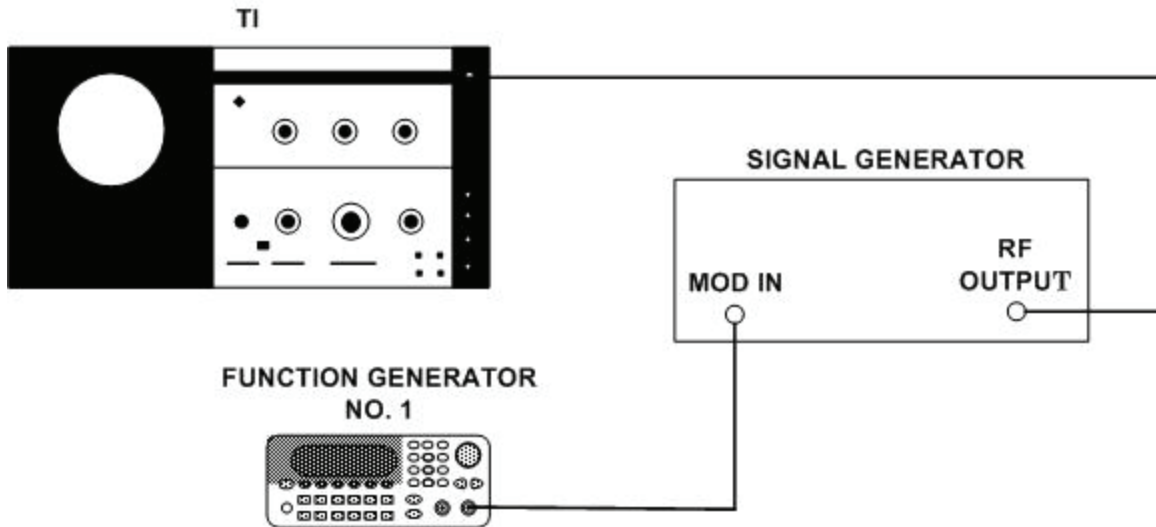

Figure 5. Scan time accuracy - equipment setup.
- (1) Connect equipment as shown in figure 5.
- (4) Adjust signal generator frequency and amplitude controls until signal display is aligned with far left graticule line on display. Record signal generator frequency.
- (5) Increase signal generator frequency 80 MHz above frequency recorded in (4) above. Signal display will move within  $\pm 0.24$  division of the eighth graticule line to the right.
- (6) Set **BANDWIDTH** switch to **3 kHz** and **SCAN WIDTH PER DIVISION** switch to **.05 MHz**.
- (7) Set IF plug-in **SCAN TIME PER DIVISION** switch to **10 ms**.
- (8) Connect equipment as shown in figure 5.
- (9) Set signal generator controls as necessary for external modulation.
- (10) Adjust signal generator output to 60 MHz and adjust function generator no. 1 output to 50 kHz.
- (11) Adjust signal generator and function generator no. 1 amplitude controls until a signal pip is displayed every 50 kHz across the display.
- (12) Adjust **FREQUENCY** and **FREQUENCY FINE TUNE** controls until a 50 kHz signal pip is aligned with far left graticule line on display. A 50 kHz signal pip will appear within  $\pm .8$  division of eighth graticule line to right.
- (13) Set **SCAN TIME PER DIVISION** switch to **5 ms**.
- (14) Set **SCAN WIDTH PER DIVISION** switch to **20 kHz**.
- (15) Adjust function generator no. 1 frequency to **20 kHz**.
- (16) Adjust signal generator and function generator no. 1 amplitude controls until a signal pip is displayed every 20 kHz across display.
- (17) Repeat technique of (11) above for 20 kHz signal pips. A 20 kHz pip will appear within  $\pm.24$  division of eighth graticule line to right.